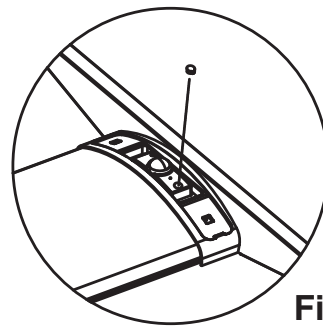

Fig. 4
4. Place the hinges of the retrofit luminaire body into the keyholes of the end plates, slide the luminaire body horizontally to the end of the slots. (See **Fig. 4, Fig. 4A**).
4. Place the hinges of the retrofit luminaire body into the keyholes of the end plates, slide the luminaire body horizontally to the end of the slots. (See Fig. 4, Fig. 4A).
3. Secure the c-Max™ node in place by fastening the included M3 button head screw with a Hex (Allen) key (not included). Once the screw is secured, cover it with the included silicone cap (see Fig. 4 - drawing for illustration only, actual screw may look different.)